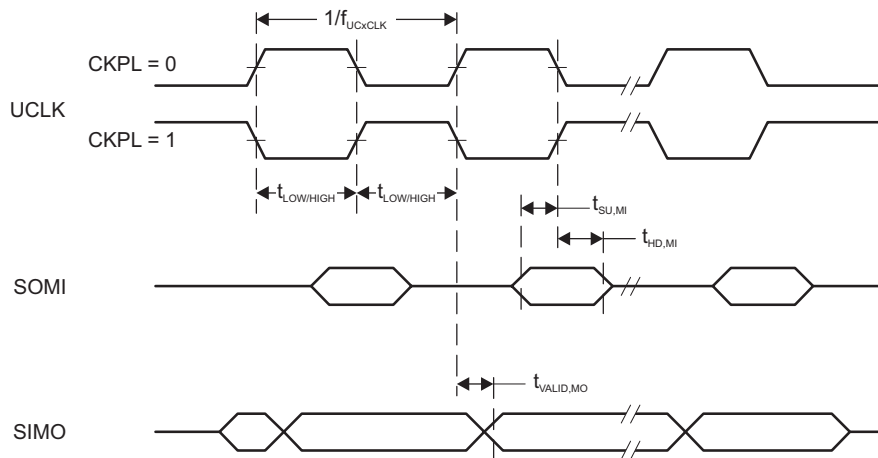
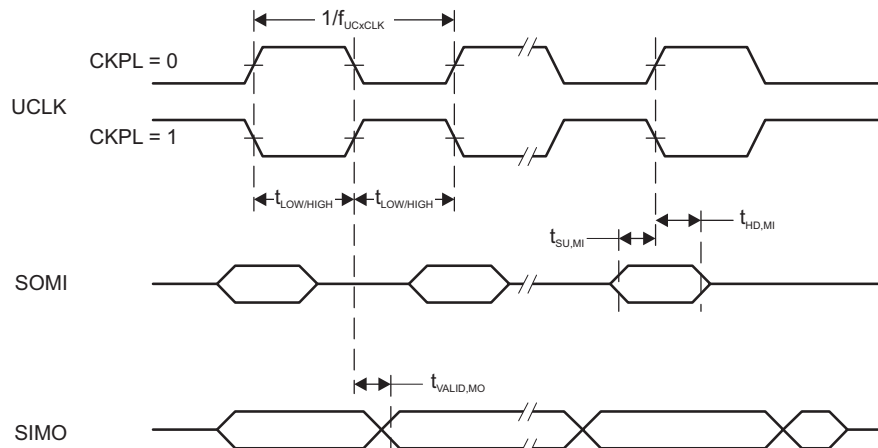

Figure 5-6. SPI Master Mode, CKPH = 0
Figure 5-7. SPI Master Mode, CKPH = 1
- (1) $f_{UCxCLK} = 1/2t_{LO/HI}$ with $t_{LO/HI} = \max(t_{VALID,MO(eUSCI)} + t_{SU,SI(Slave)}, t_{SU,MI(eUSCI)} + t_{VALID,SO(Slave)})$. For the slave parameters $t_{SU,SI(Slave)}$ and $t_{VALID,SO(Slave)}$ see the SPI parameters of the attached slave.
- (2) Specifies the time to drive the next valid data to the SIMO output after the output changing UCLK clock edge. See the timing diagrams in Figure 5-6 and Figure 5-7.
- (3) Specifies how long data on the SIMO output is valid after the output changing UCLK clock edge. Negative values indicate that the data on the SIMO output can become invalid before the output changing clock edge observed on UCLK. See the timing diagrams in Figure 5-6 and Figure 5-7.